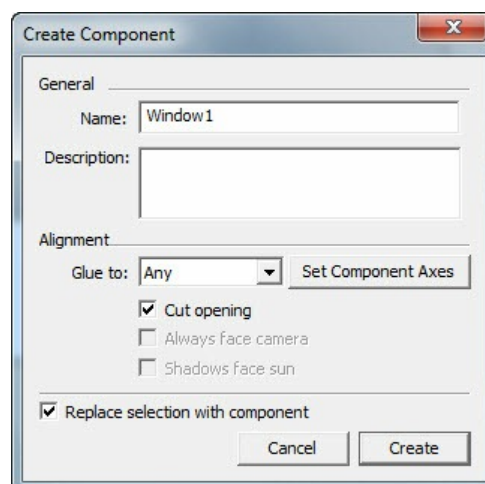

Figure 49. Create Component dialogue box
- Select **Make Component** and name the component **Window1** as shown in Figure 49. Ensure that Glue to **Any** is selected and the **Cut Opening** box is ticked.